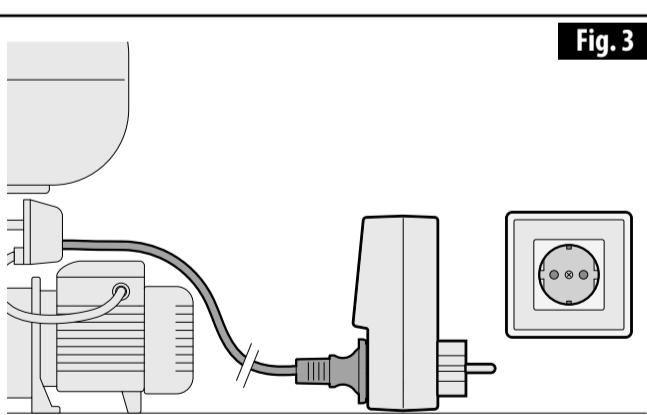

Fig. 3
- Insert the plug of the electric pump's power cable in the EP device (Fig.3).